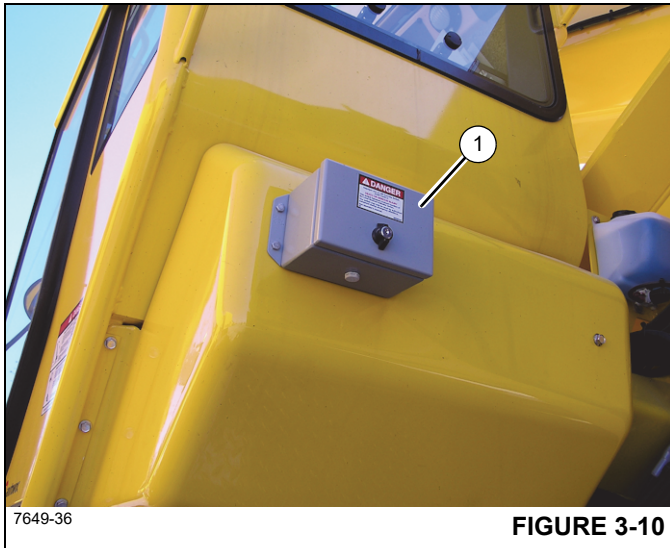

FIGURE 3-10
The Limit Bypass Switch is located inside a key-locked single-door enclosure (1) (Figure 3-10) attached to the outside rear of the operator's cab. The switch is a two-position momentary rocker switch. In an emergency situation only, press and release the switch to bypass the following limiter systems and their craning function lockouts: